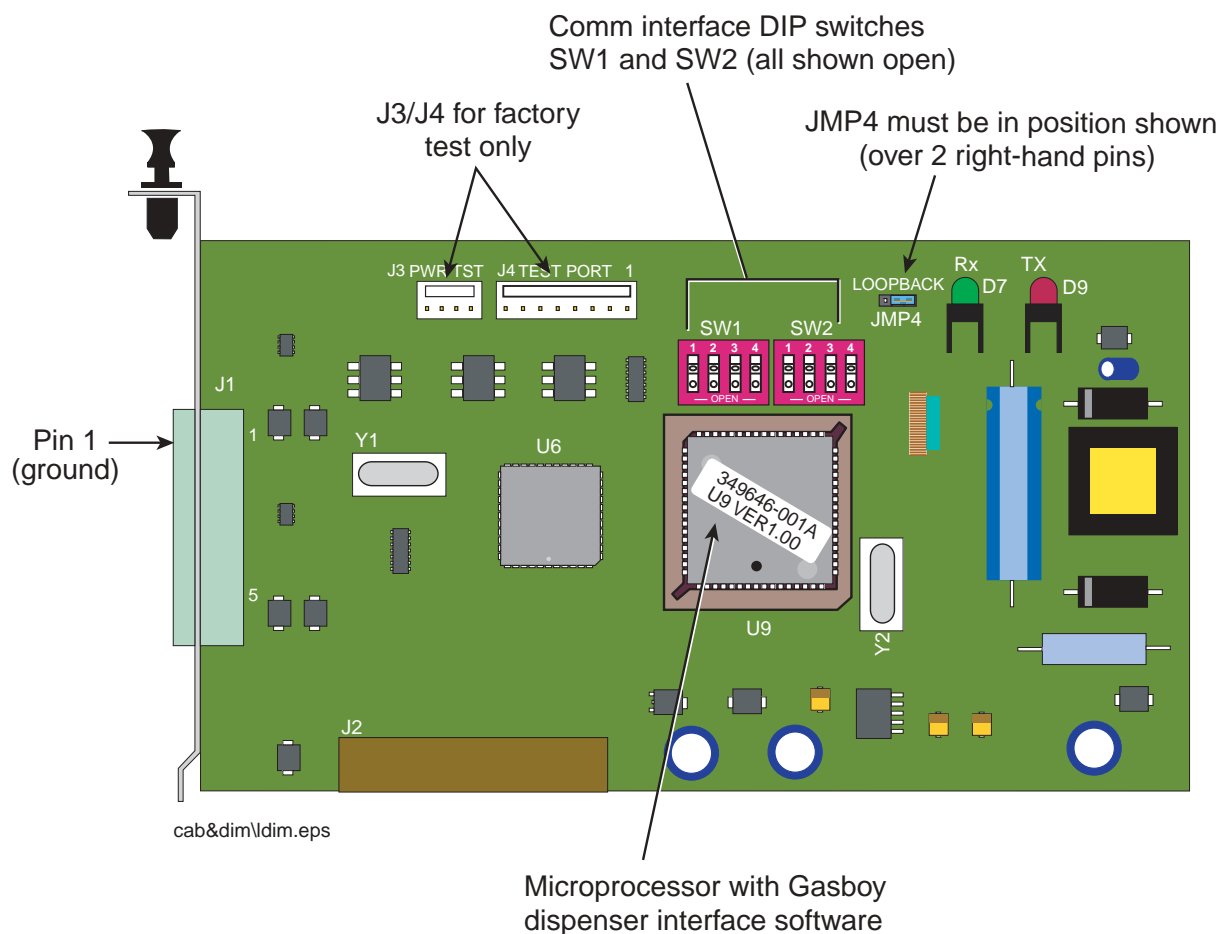

Figure 1. Gasboy Interface Module
| Figure 1. | Gasboy Interface Module | 4 |
Get the Gasboy Interface Module (see Figure 1) and perform the following setup verifications.
1. Make sure the JMP4 jumper is in the position shown in Figure 1 (over the 2 right-hand pins). Important! if this jumper is over the two left-hand pins, the IM will be disabled.